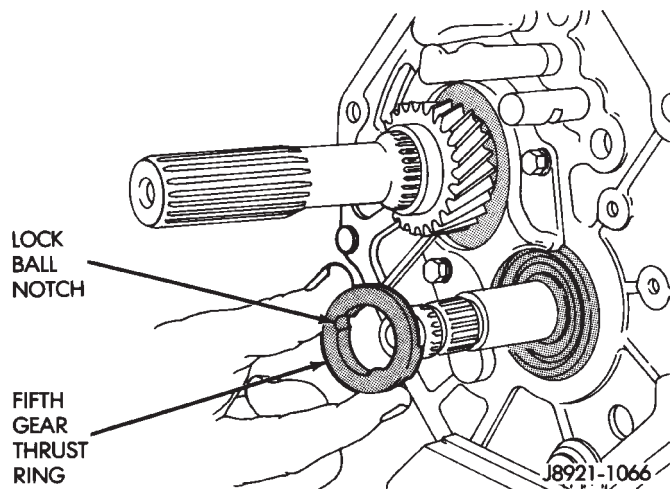

Fig. 98 Installing Fifth Gear Thrust Ring
(2) Install fifth gear thrust ring (Fig. 98). Be sure thrust ring notch fits over lock ball.